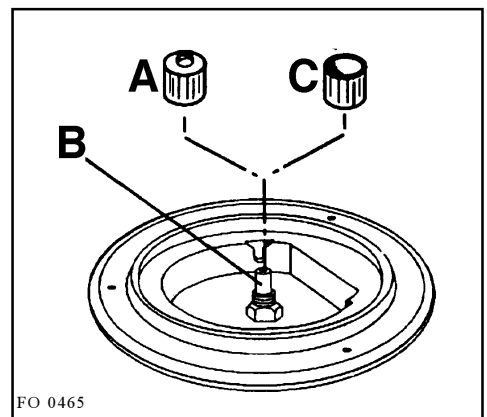

Fig. 8
- a) Auxiliary burner and the semi-rapid burners: after fitting the nozzles (Fig. 8, lett. "B") screw the provided grid filter "A" (Ø 10) on them;